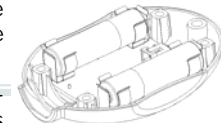

FIG 2
2. Separate the enclosure and an place it on a flat surface, FIG 2.
7. Install the battery: Align the battery over the terminal clip mounted on the PCB Assembly and press down until the battery snaps into place, FIG 2.